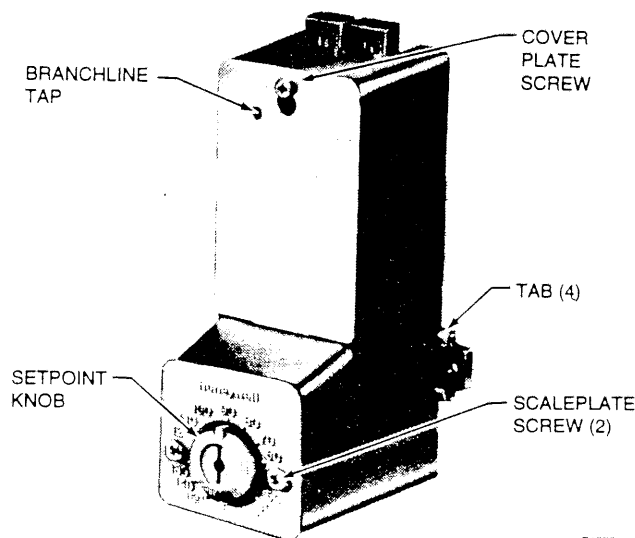

Fig. 5. Branch Line Tap Location.
Verify device operation by checking the pressure at the branchline tap (Fig. 5), located below and to the left of cover holding screw. The branchline pressure should build up and bleed down through its full range as the setpoint knob is rotated.
1. Remove the two screws that hold the Scaleplate (Fig. 5).
1. Remove the cover by loosening one screw and sliding cover so keyhole clears screwhead (Fig. 5).
2. Straighten four tabs and remove the Mounting Plate (Fig. 5).
5. Replace screws and Mounting Plate and rebend the four tabs (Fig. 5).